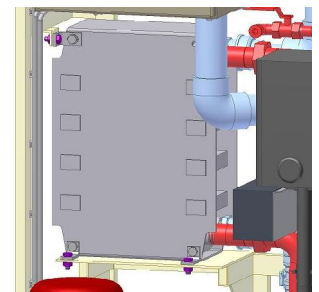

Figure 4.2-3
3. Remove the three heat exchanger fasteners, M10 screw connections (marked violet in Figure 4.2-3).